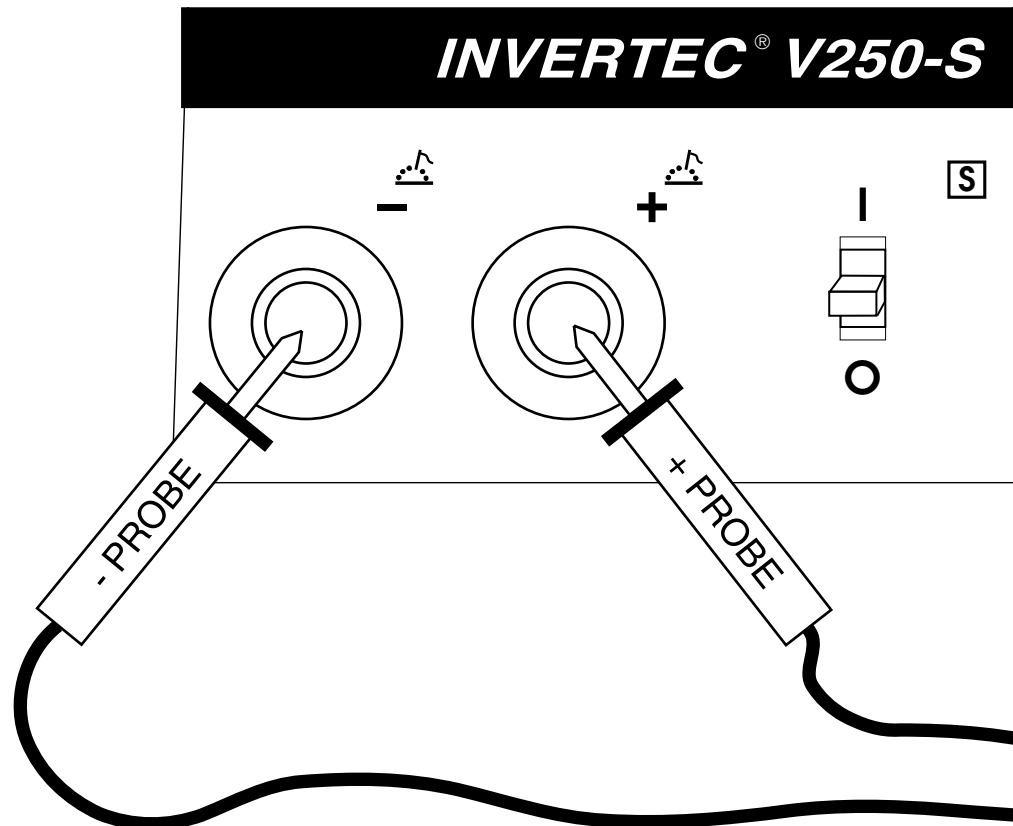

Figure F.5 Meter Probes.
4. Using the analog ohmmeter test for more than 200 ohms resistance between positive and negative output terminals. Positive test lead to the positive terminal; Negative test lead to the negative terminal. See **Figure F.5**.